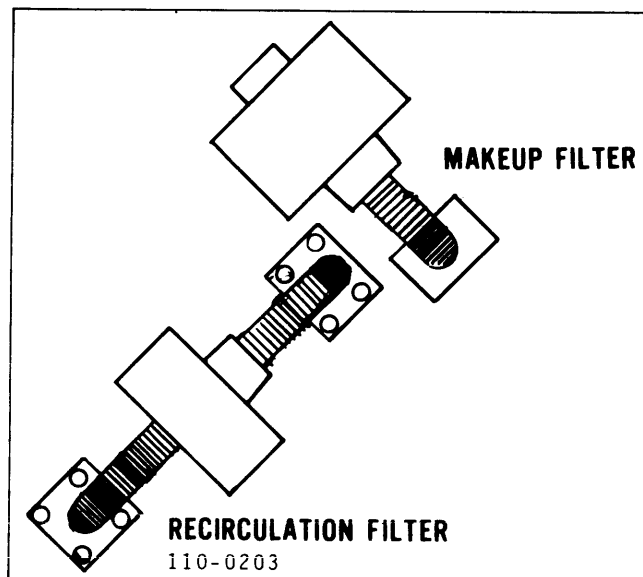

Figure 4-1. Filter Identification
- c. Unsnap the makeup filter (this filter is connected to only one tube, as shown in figure 4-1) from its retaining plate and disconnect the tube from the filter. Do not disconnect the tube from the deck.